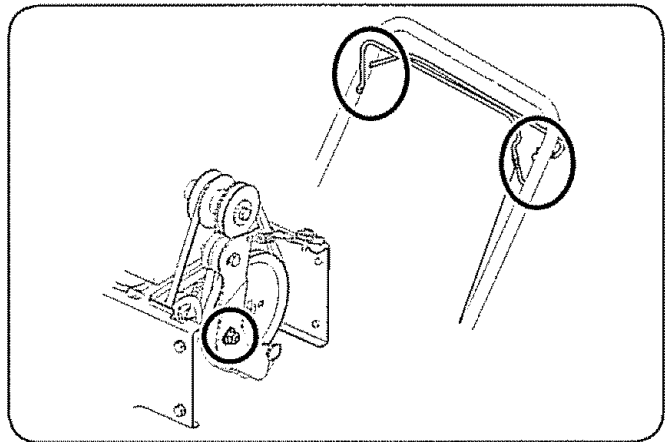

Figure 8
For a view of the lubrication points on the snow thrower, see Figure 8.
3. Remove the self-tapping screw shown in Figure 8, and press the plastic tabs to release the belt cover. Pull the belt cover up and out from around the engine and chute assembly. Set it aside and save.